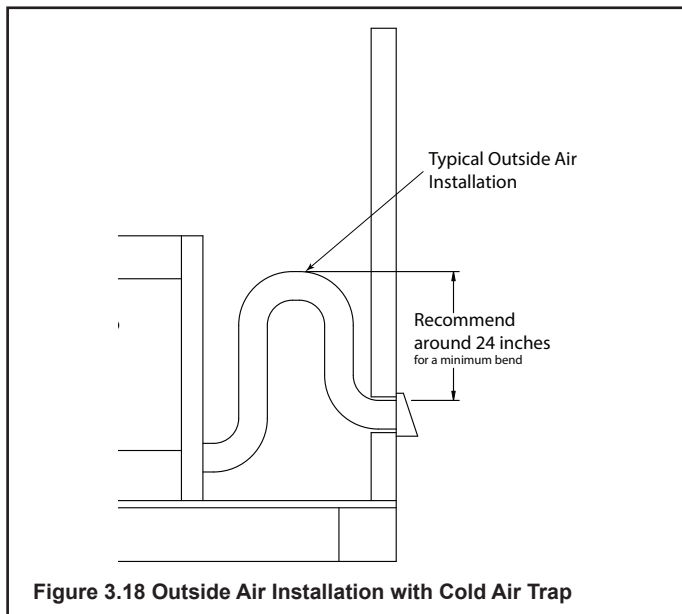

Figure 3.18 Outside Air Installation with Cold Air Trap
- Use 6 in. (152 mm) metal flex or rigid piping (not supplied) to directly connect outside air to fireplace intake. Insulate the pipe to prevent frost condensation. See Figure 3.18.